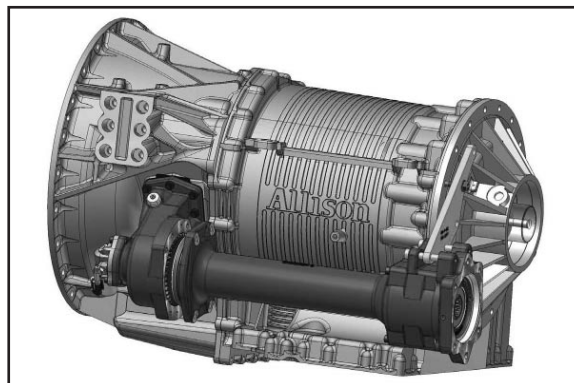

Fig. 14
14. The tube assembly is lined up and inserted into the Input Housing. As this is done, the bolts for the bracket should be started into the rear of the transmission. (**Fig. 14**).